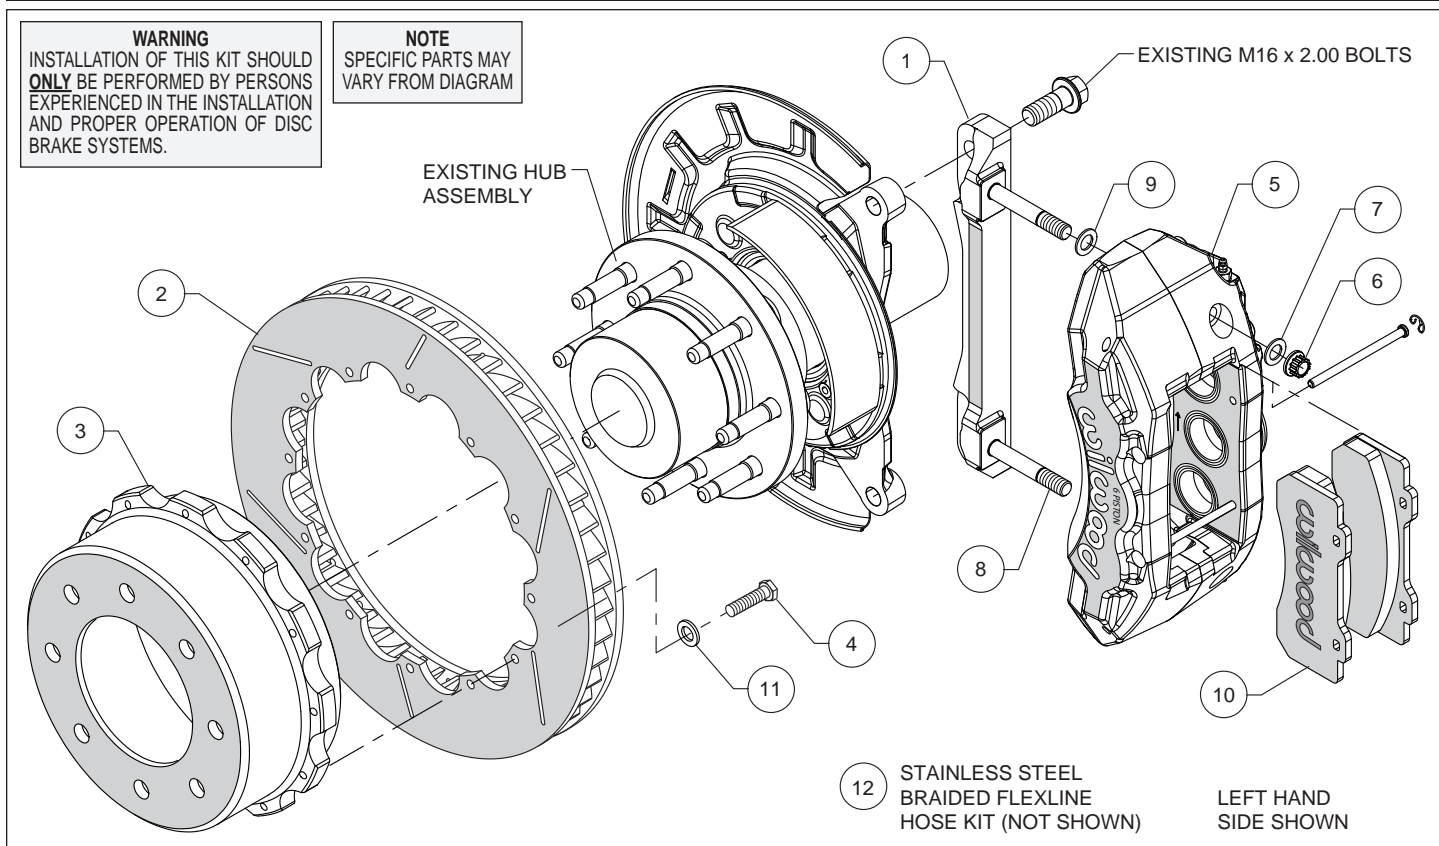
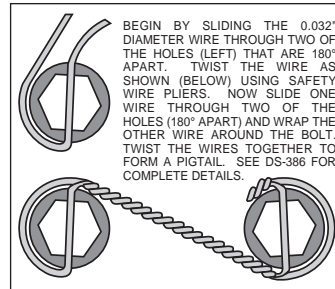

Figure 1. Typical Installation Configuration
Figure 3. Safety Wire Diagram
**Assembly Instructions** (numbers in parenthesis refer to the parts list and Figure 1 on the preceding pages):
- The caliper mount bracket (1) should initially be installed with clean, dry threads on the mounting bolts. Orient the bracket as shown in Figure 1 and Photo 1, and install using saved OE bolts. Temporarily tighten the mounting bolts. **NOTE:** *The bracket must fit squarely against the mount bosses on the upright.* Inspect for interference from casting irregularities, machining ridges, burrs, etc. Remove the mounting bolts one at a time and apply red *Loctite*® 271 to the threads and torque to manufacturer's specifications.
- Orient the rotor (2) and the hat (3) as shown in Figure 1 and Photo 2. Attach rotor to hat using bolts (4) and washers (11). Using an alternating sequence, torque to 25 ft-lbs. The bolts must be safety wired using standard 0.032 inch diameter stainless steel safety wire as shown in Figure 3. Please refer to Wilwood's data sheet DS-386 (available at [www.wilwood.com/Pdf/DataSheets/ds386.pdf](http://www.wilwood.com/Pdf/DataSheets/ds386.pdf)) for complete safety wire installation instructions.
- NOTE:** *This kit contains distinct right and left hand calipers that must be mounted in a specific direction, as described below.* Lubricate the caliper mounting studs (8) with lightweight oil. Initially place one .032" thick shim (9) on each stud as shown in Figure 1 and Photo 3. Mount the caliper (5) onto the bracket (1) using lock nuts (6) and washers (7), Figure 1. Ensure that the caliper is mounted so that the largest pistons are at the rotor exit end of the caliper, in relation to the direction of rotor rotation. Temporarily tighten the lock nuts.